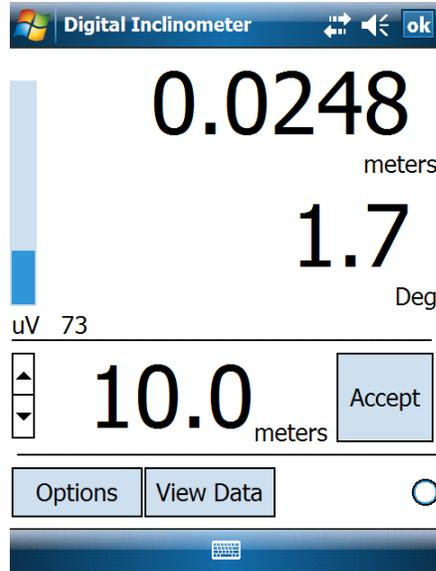

Figure 5 – Readings Screen
9. After creating a site and borehole, press the *Readings* button to perform a survey. The readings screen should appear as depicted in Figure 5.